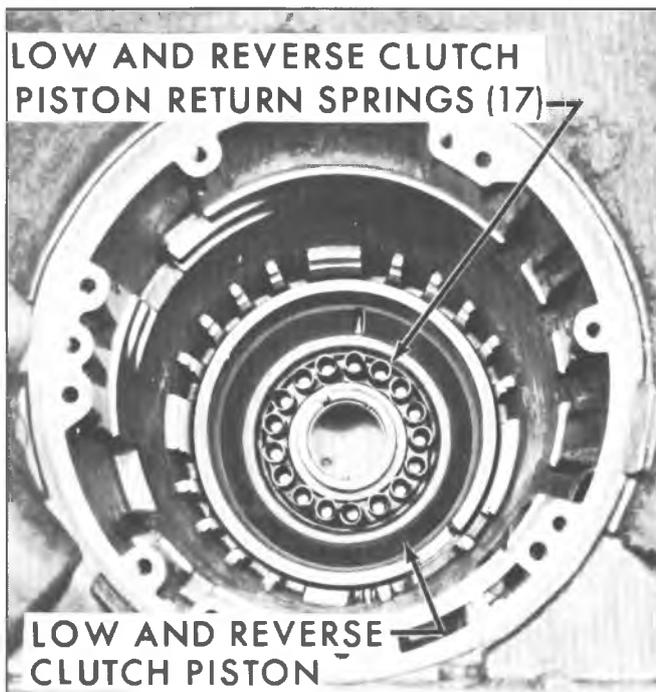

Fig. 46M-Low and Reverse Clutch Piston Springs and Piston
- 22. Remove seventeen (17) piston springs from piston (fig. 46M).